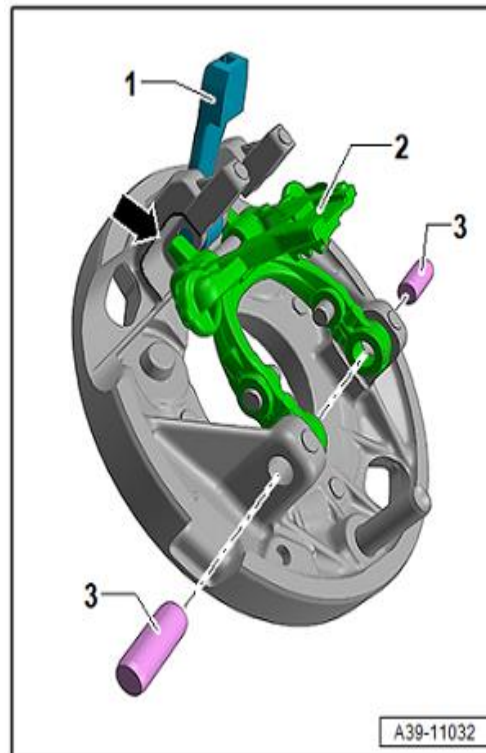

Figure 14. Installing a new shift fork.
11. Insert the new shift fork from the repair kit (Figure 14, position 2) into the gear carrier, and in doing so pay attention to the right installation position.
Flap the latch (Figure 14, position 1) outward for installation.
Insert the shift fork (Figure 14, position 2) into the recess of the gear carrier -arrow-.
Partially insert the new pins provided in the repair kit (Figure 14, position 3), to secure the shift fork for the next step (Figure 14, position 2).